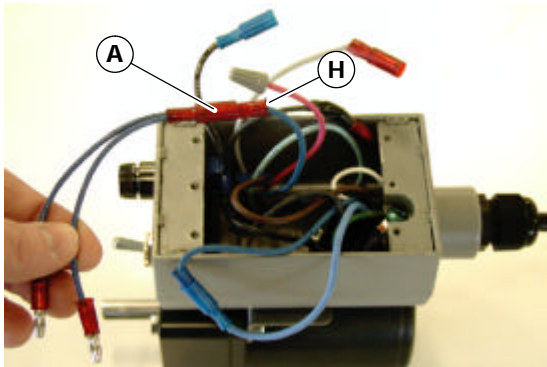

Figure 19
**12b.** Connect female end of wiring harness (A of Figure 19) to dark blue wire (H).